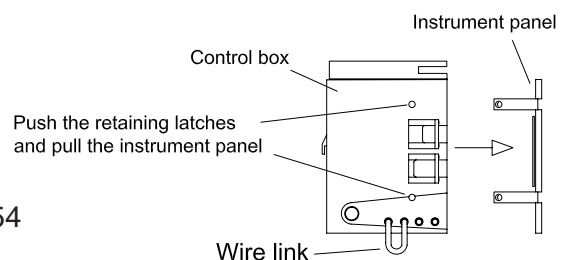

Fig.54
**8.27 EXTERNAL CONTROL CONNECTION (Fig. 54)**
**8.24 TO REMOVE THE INSTRUMENT PANEL (Fig. 54).**
Push the four retaining latches and remove the front of the panel box (fig. 54).